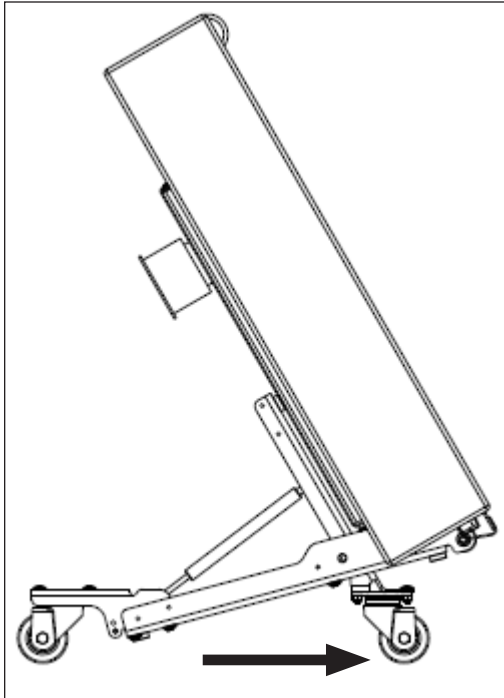
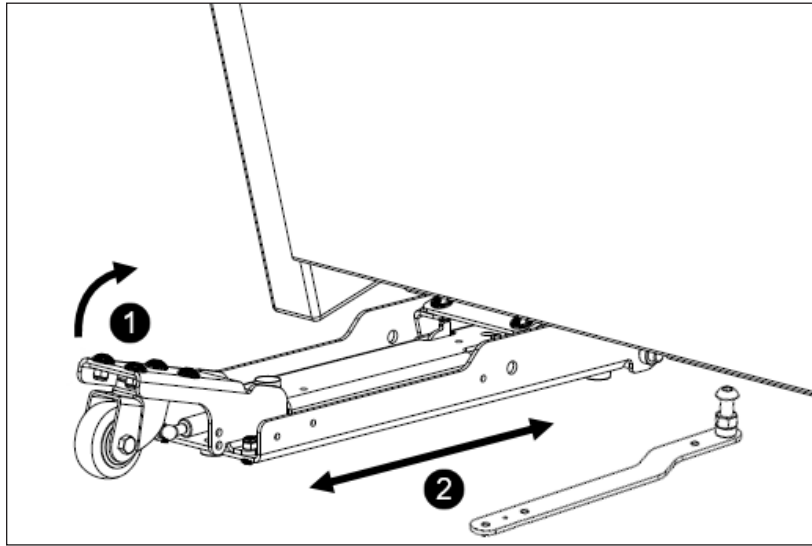

Figure 18: Transport Mode - Side View
Figure 22: Fine-Tune Table Position
1. With the table in its desired location, move to the rear and roll it backwards slightly so the front caster on each caster base is rotated fully forward. Note the orientation of the front caster as shown in **Figure 18**.
5. After both pivot arms are lowered, adjust the position of the table as necessary. Refer to **Figure 22**. Lift up slightly on the rear of one caster base so the table is supported by the rollers on the front of the caster base, and push/pull the table forward/backward. Repeat for the other caster base on the other end of the table as needed.
Note: If the tables are overly difficult to reposition, try adjusting the front and rear caster wheels as shown in **Figure 18** and **Figure 22**.